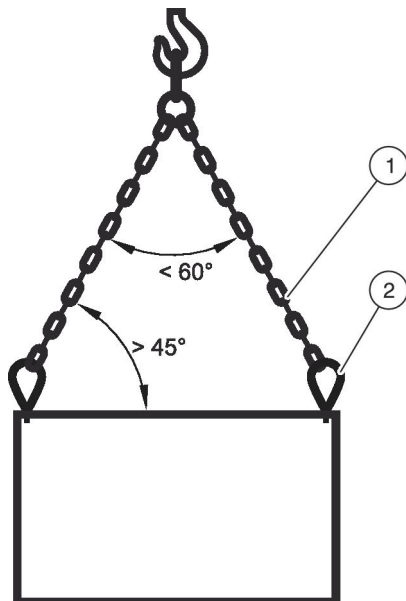

Fig. 7: Moving units with a crane and lifting eyes or eye nuts (without a spreader beam)
- ▶ Insert all lifting eyes or eye nuts ( Fig. 7 /2) completely into the threaded holes.
- ▶ Hook the slings ( Fig. 7 /1) into the lifting eyes or eye nuts.